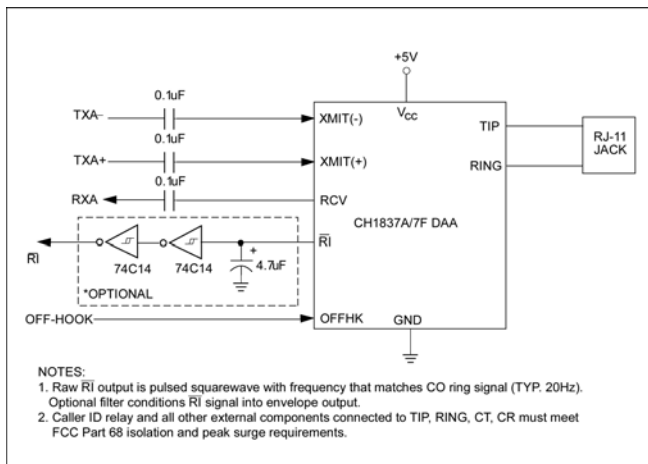

Figure 3. Typical Application.
Ring Detection. To announce an incoming call, the telephone company's central office (CO) applies an AC ringing signal to the PSTN line. The CH1837A/7F/8A is designed to detect this signal. The CH1837A/7F/8A uses the AC ring signal to produce a square wave pulse train output at the CH1837A/7F/8A RI pin. This pulse train is the same frequency as the incoming AC ring signal and is typically 20 Hz. Figure 3 shows external filtering which may be employed to provide an envelope indication of the ring signal using the CH1837A/7F/8A RI output. The ring detection circuit in the CH1837A/7F/8A family is designed to deter false indications caused by pulse dialing or noise on the PSTN line.
CH1837A/F. The user presents all outgoing transmit signals to the XMIT(-) pin with respect to GND for single ended operation or between XMIT(-) and XMIT (+) for differential operation. This signal must be AC coupled through a 0.1 μ F capacitor present on both the XMIT(-) and XMIT(+) pins as shown in Figure 3.
For single-ended operation, the outgoing analog signal is applied to the XMIT(-) pin with respect to GND. This signal must be AC coupled using a 0.1 μ F capacitor as shown in Figure 3. In single ended signal operation, the XMIT(+) pin must be connected to GND through a 0.1 μ F capacitor.
CH1837A/F. The CH1837A/F derives the incoming signal and presents it at RCV with respect to GND. The user must AC couple RCV through a 0.1 μ F capacitor as indicated in Figure 3.